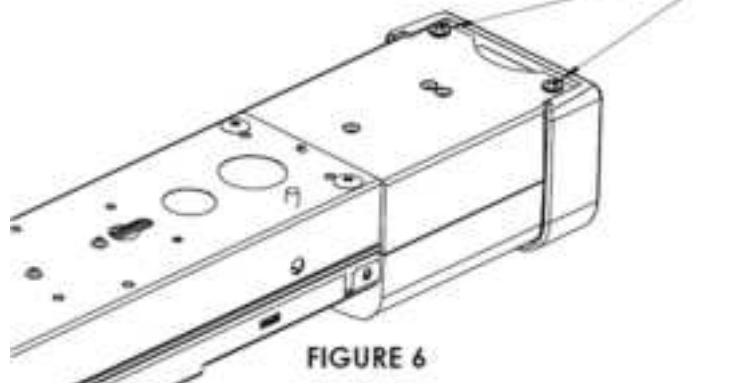

FIGURE 6
10. **Remove wireway cover** and end caps(See Figure 6 for Controls Enclosure end cap removal). Ensure the ends of the continuous row fixture have end caps replaced.
11. **Attach continuous row bracket (5)** as seen in Figure 4. For fixtures with a Controls Enclosure, slide fixture housing onto Controls Enclosure. Install provided #8-18 screws into the outer holes of the fixture/Controls Enclosure. Proceed to torque #8-18 screws to  $13 \pm 2$  in\*lbs as seen in Figure 6.